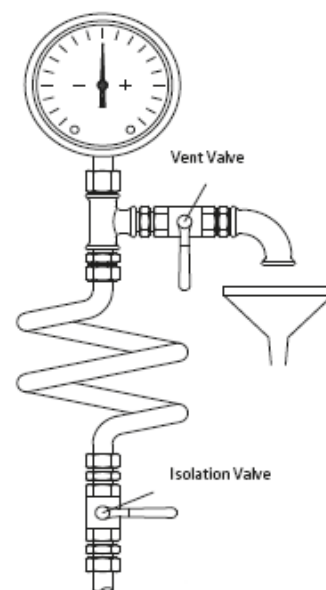

Fig.3
- Pressure and vacuum gauges must be properly anchored and connected at the measuring points located on the pipes approximately 2D close to the flanges with approximately 8 mm diameter tubing with pig tail configuration to lessen pressure fluctuation. For safety purposes isolating and vent valves should be fitted before the gauges (Fig. 3).